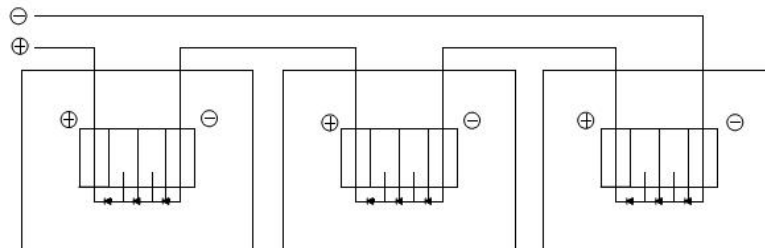
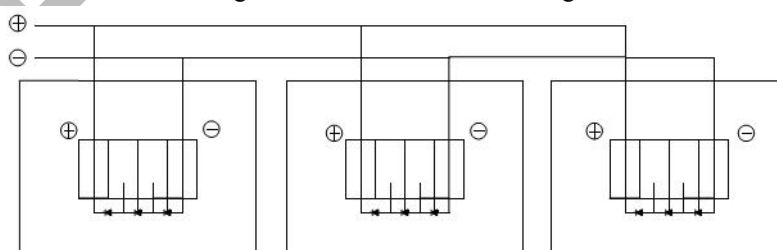

图 11 串联增加电压
图 12 并联增加电流
- 2) 为了确保系统的正常运行，在将组件连接到电池或者其他组件时，请注意观察电缆线的极性（图 11 和 12）。如果连接不正确，旁路二极管可能会损坏。
In order to ensure the normal operation of the system, make sure the modules polarity is observed (Fig.11 and Fig.12) when the modules are connected to the battery or other modules. Reverse polarity might cause damage to the protective diodes.
- 4) 组件串联连接电压累加。从一块组件的正极接线端连接到下一块组件的负极接线端。图 11 显示的是组件串联连接。
PV modules can be wired in series to increase voltage. Connect wires from the positive terminal of one module to the negative terminal of the next module. Fig.11 shows modules connected in series.
- 5) 组件并联连接电流累加。从一块组件的正极接线端连接到下一块组件的正极接线端。图 12 显示的是组件并联连接。
Connect PV modules in parallel to increase current. Connect wires from the positive terminal of one module to the positive terminal on the next module. Fig.12 shows modules connected in parallel.
Fig. 11 in series to increase voltage
Fig. 12 in parallel to increase current